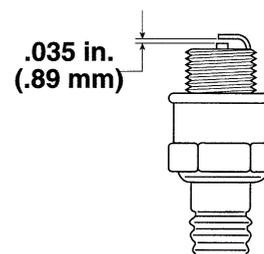

Figure 19
3. Set air gap at 0.035" (0.89 mm) (Fig. 19). Install correctly gapped spark plug and gasket seal. Tighten plug firmly to 15 ft-lb (20 N·m).